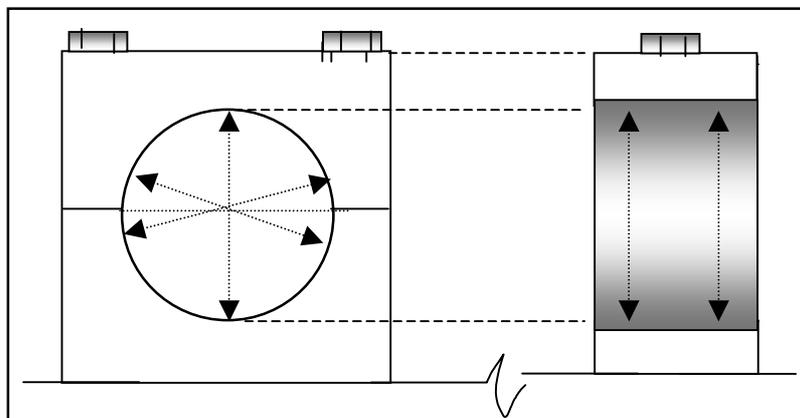

Fig.9-2
- Measure the bores at 2 planes and at 60° angles. Fig.9-2